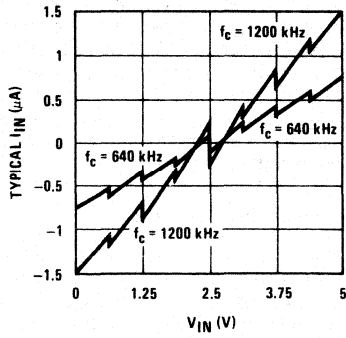

FIGURE 6. Comparator  $I_{IN}$  vs  $V_{IN}$
**Note 6:** Comparator input current is a bias current into or out of the chopper stabilized comparator. The bias current varies directly with clock frequency and has little temperature dependence (Figure 6). See paragraph 4.0.